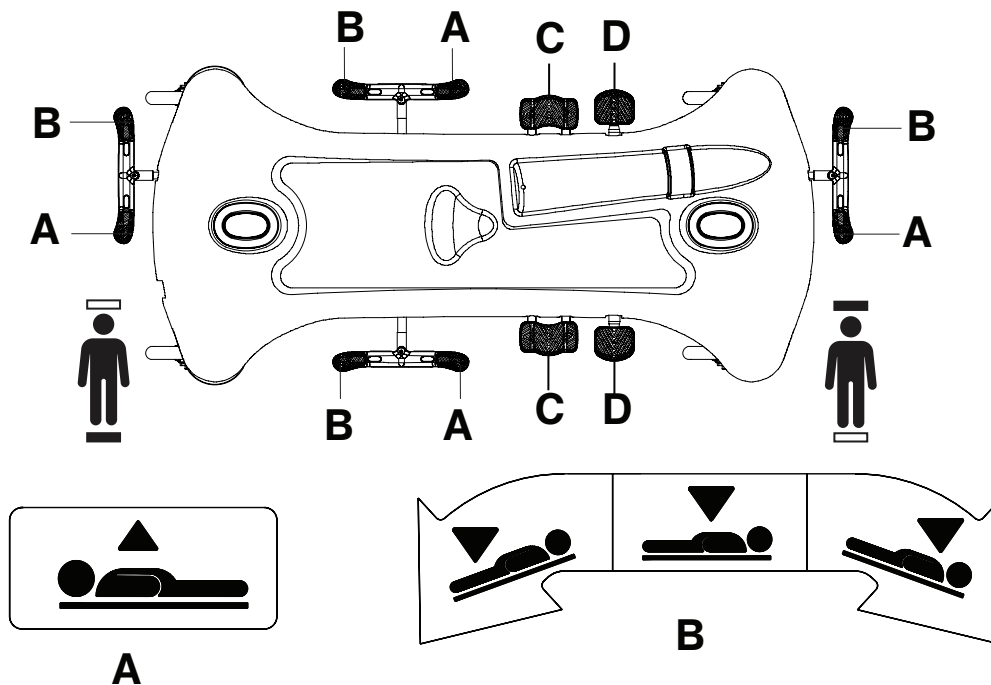

Figure 2: Raising or lowering the litter
To raise the litter, pump the pump pedal (D) until you achieve the desired height (Figure 2 on page 12).
To position the product in the Trendelenburg position (head down), raise the litter to the highest height (Figure 2 on page 12).
To position the product in the Reverse Trendelenburg position (foot down), raise the litter to the highest height (Figure 2 on page 12).